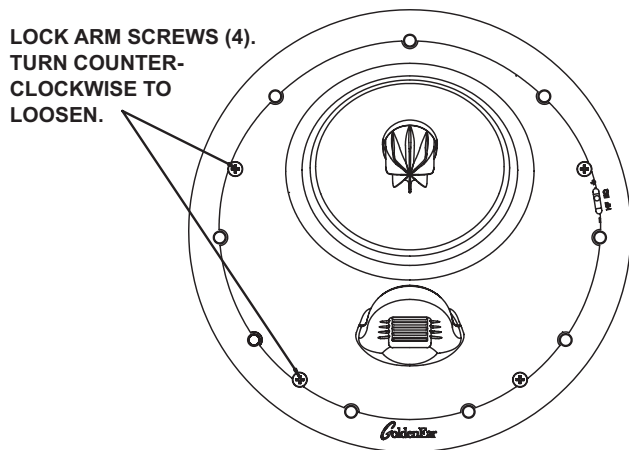

Figure 4
7. Loosen the four rotating lock arms on the speaker by turning the arm screws on the front of the speaker counterclockwise  $\frac{1}{2}$  to 1 turn, just enough to allow the lock arm to move freely (Figure 4).